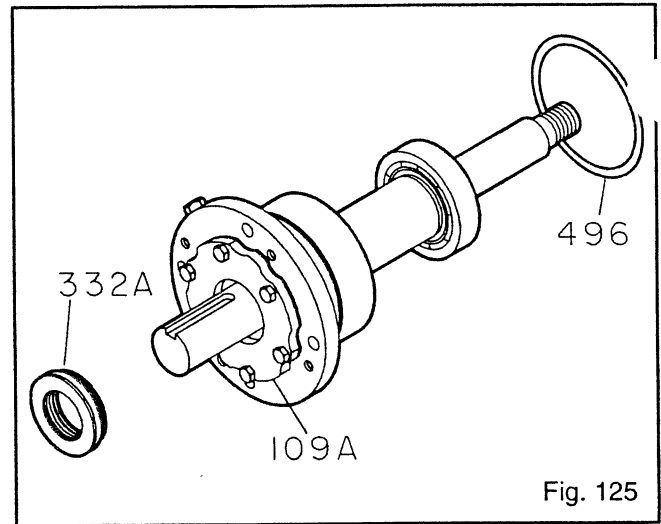

Fig. 125
9. Install new O-ring (496) (Fig. 125).
10. Install outboard labyrinth oil seal (332A) into end cover (109A). It is an O-ring fit. Position the labyrinth seal drain slots at the bottom 6 o'clock position (Fig. 125).